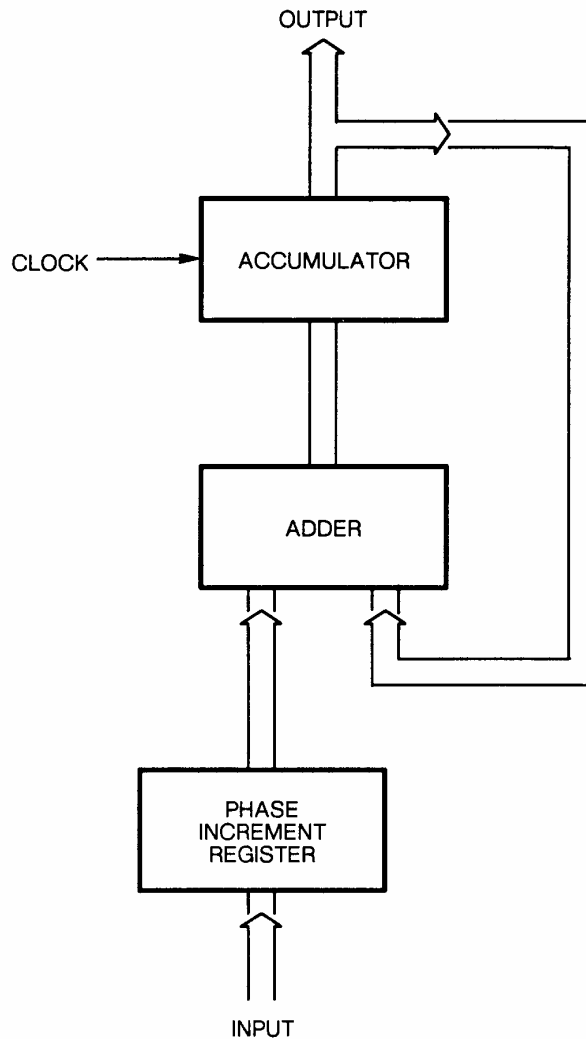

Fig. 4-7 Simplified functional diagram of audio generator logic array
56. Both AF generators are functionally similar, and are based on a custom-designed CMOS logic array (IC2 and IC3). The internal architecture of these devices is complex and can only be easily described in very simplistic manner – see Fig. 4-7. Under control of the microprocessor, a binary number is loaded into the phase increment register. This number is added into the accumulator at a rate determined by the clock input. The output from the accumulator is therefore a binary number that is constantly incrementing by a programmed amount. This number is used as an address to the waveform PROMs IC4 and IC5. These are used as look-up tables and contain data that represents the step-wise approximation to the desired waveform. The 8-bit wide data from IC4 and IC5 is converted into an analogue voltage by the D-A converters IC6 and 7.